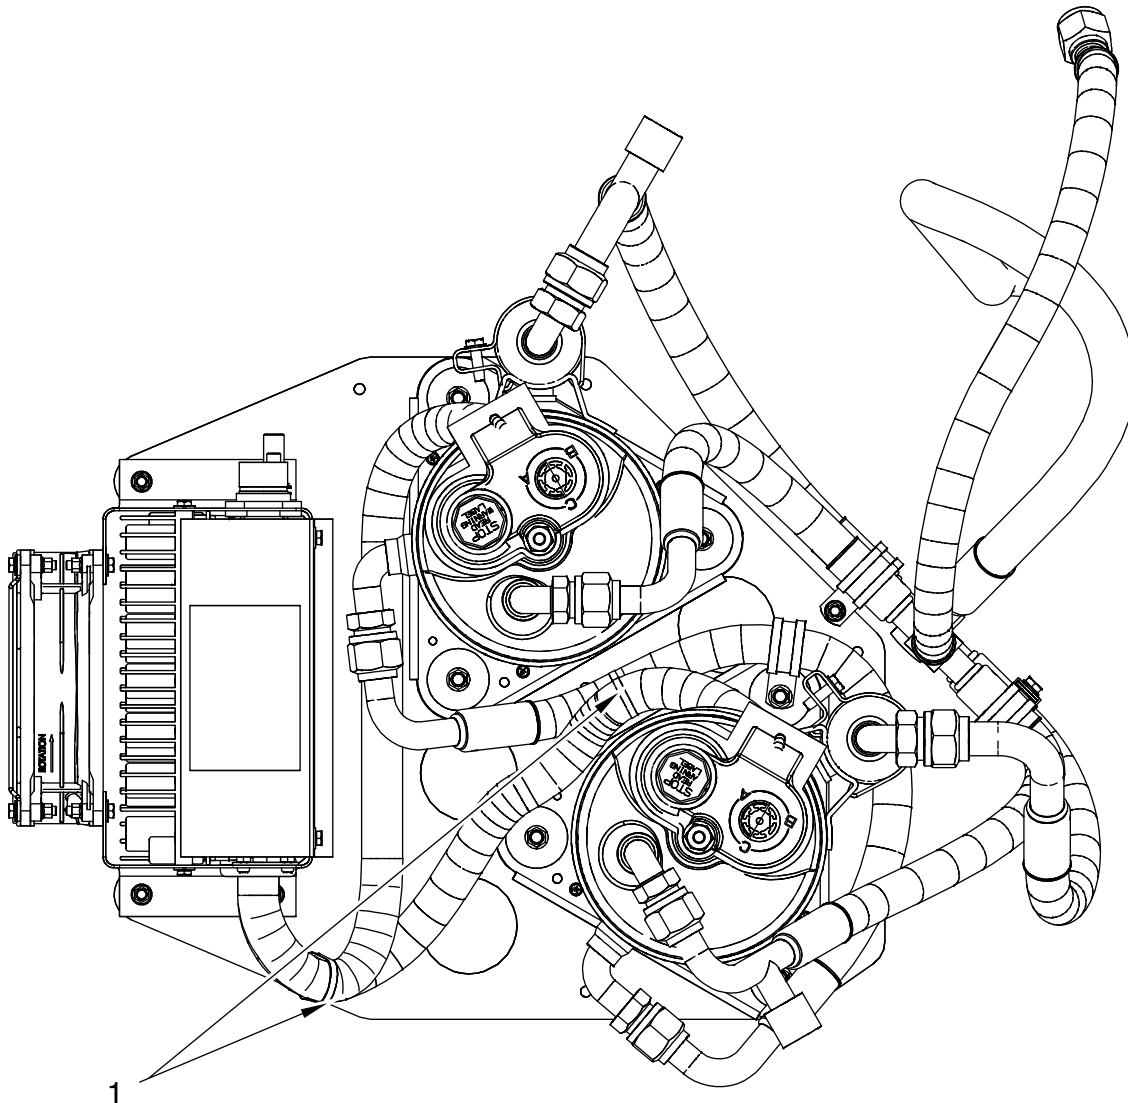

Figure 10
- (19) The compressor power cables should be routed as shown. Replace any tie wraps removed earlier with tie wraps, P/N MS3667-4-0 or equivalent (1, Figure 10).